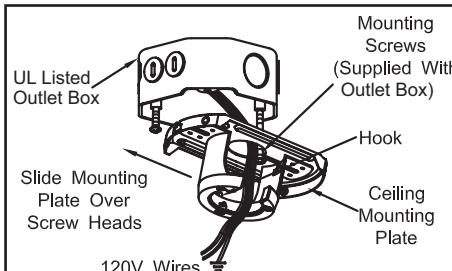

Figure 10
- Pass the 120-volt supply wires through the center hole in the ceiling mounting plate as shown in Figure 10.
- Install the ceiling mounting plate on the outlet box, by sliding the mounting plate over the two screws provided with the outlet box (Figure 10). When using close-to-ceiling mounting, it is important that the mounting plate be level. If necessary, use leveling washers (not included) between the mounting plate and the outlet box. Note that the flat side of the mounting plate is toward the outlet box (Figure 10).